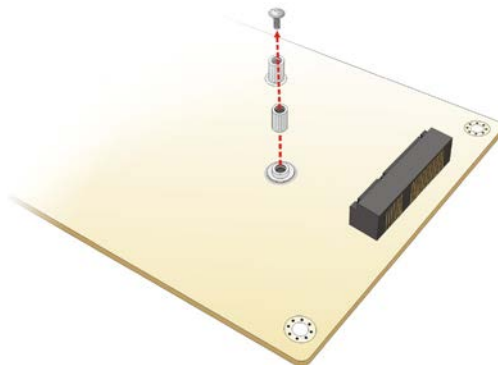

Figure 4-3: Removing the Retention Screw and Standoff
Step 3: Remove the retention screw and standoff. Unscrew and remove the retention screw and standoff for half-size PCIe Mini card secured on the motherboard as shown in **Figure 4-3**.
CN Location:	See Figure 4-3
The location of the clear CMOS button is shown in **Figure 4-3**